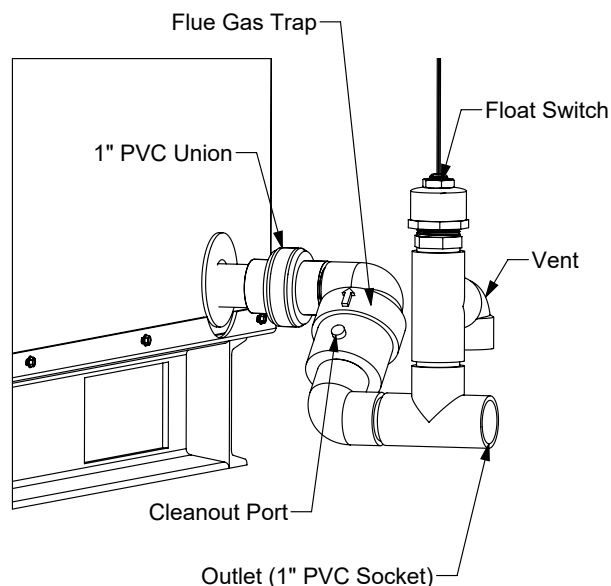

Figure 11: Condensate Trap Assembly
- Install the condensate trap on the lower rear of the appliance as shown in Figure 11.